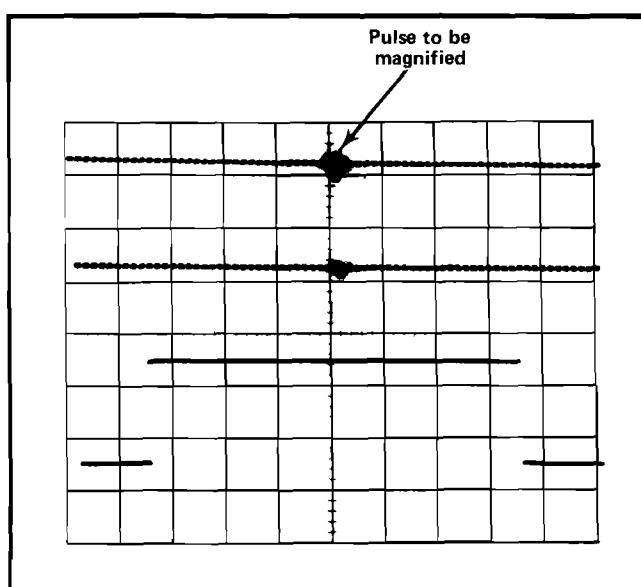

Fig. 2-13. Using delayed sweep for sweep magnification.
**Example:** The apparent magnification of the display shown in Fig. 2-13 with an A TIME/DIV setting of .1 ms and a B TIME/DIV setting of 1  $\mu$ s is: